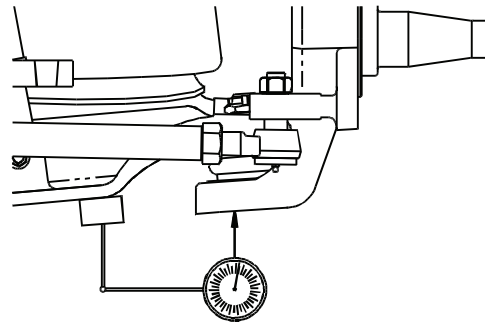

Figure 4 - Lower Ball Joint Dial Indicator Mounting
2. Install a dial indicator with a magnetic base so that the base is fixed to the lower control arm. Place the indicator tip on the bottom of the lower ball joint base. (See Figure 4).
0. Release the clamp. Place the pry bar between the lower control arm and steering knuckle. (See Fig. 4).